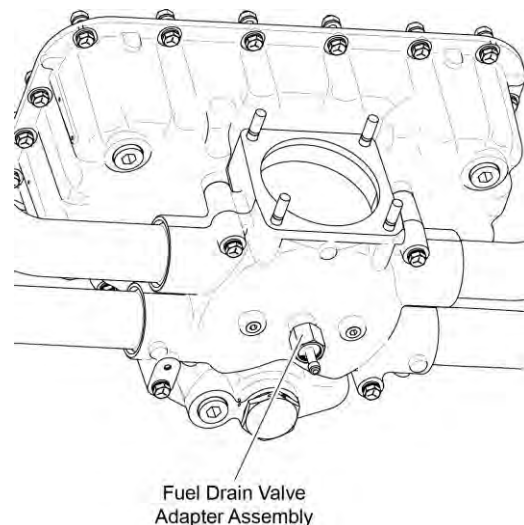

Figure 2
The fuel drain valve adapter assembly (Figure 2) is a valve in the induction system that closes during engine operation and opens when the engine is shut down to allow excess fuel to drain from the induction system. If the valve is not operating correctly it can either allow outside air into the induction system during engine operation or fail to drain excess fuel from the induction system when the engine is shut down.
A. There are four fuel lines on this engine (Figure 2). For reference, identify each fuel line by number to the corresponding cylinder.